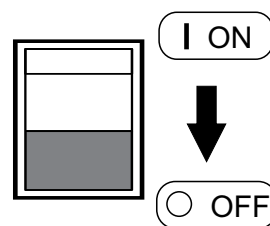

Figure 28. Idle Control Switch (OFF)
2. Place idle control switch (Figure 28) in the **OFF** position